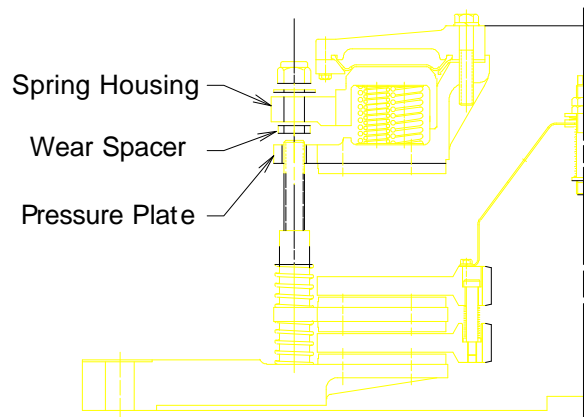

Fig. 11
- 4.3.22 Hoist the pressure plate, spring housing and end plate assembly into position. Noting the orientation of the air inlet to the mounting flange, lower the assembly over the studs and clamp tubes, placing the wear spacers (25) onto the studs between the pressure plate and spring housing. See Figure 11. The wear spacers will not pass through the holes in the spring housing.